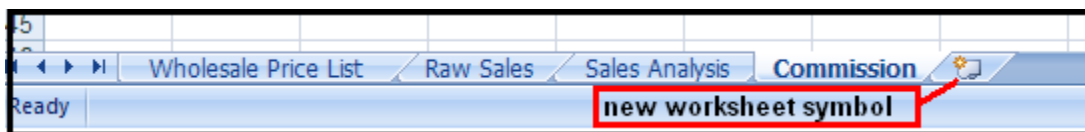

Figure 1 - Insert worksheet
- Click on the new worksheet symbols found next to the last worksheet (see Figure 1) OR right mouse click on a tab, **Insert**, and select a worksheet.